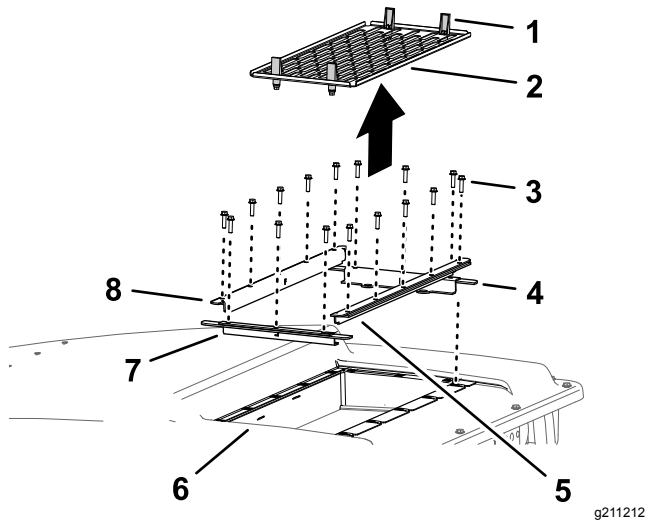

Figure 26
1. Open the 4 latches that secure the screen to the roof of the cab, and remove the screen (Figure 26).
2. Remove the 16 flange-head screws (1/4 x 1 inch) that secure the front, left, right, and back seals to the roof and liner of the cab (Figure 26).